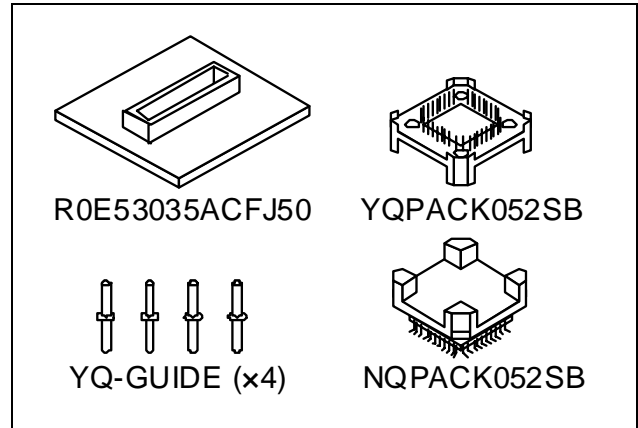

Figure 1 Package components of the R0E53035ACFJ50
2. Package Components (See Figure 1)